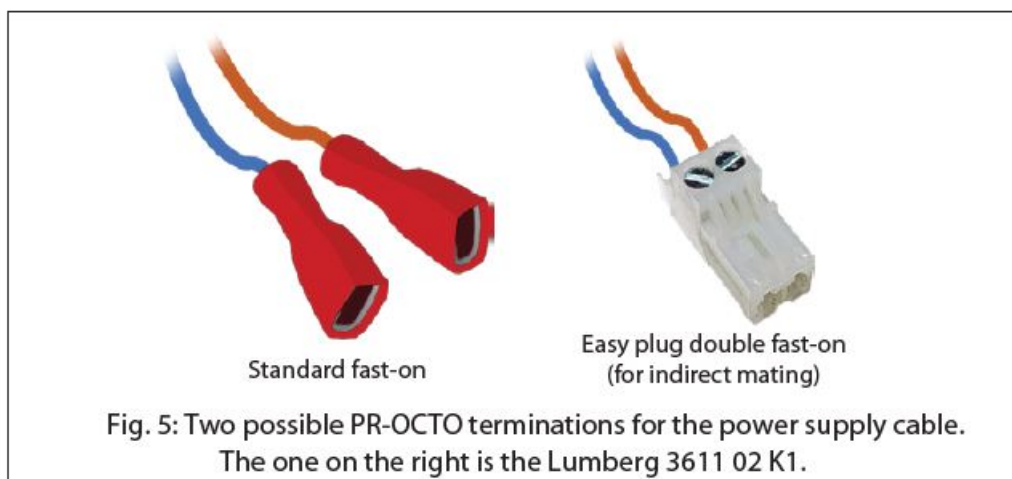

Fig. 5: Two possible PR-OCTO terminations for the power supply cable.
**Note:** All the cables have to be assembled by the Cooler Manufacturer following the instructions here below. For the POWER SUPPLY connector of the OCTO, either two standard fast-on connectors or one connector with screw terminal can be used. Fig. 5 on the right, illustrates the Lumberg 3611 02 K1, an easy plug connector with lift clamp and protection against misplacing and fast assembling. Neither the standard fast-on connectors nor the easy plug connector are included in the OCTO package.
- Pre-condition 3: A power supply cable has been prepared using one of the connectors illustrated in Fig. 5.